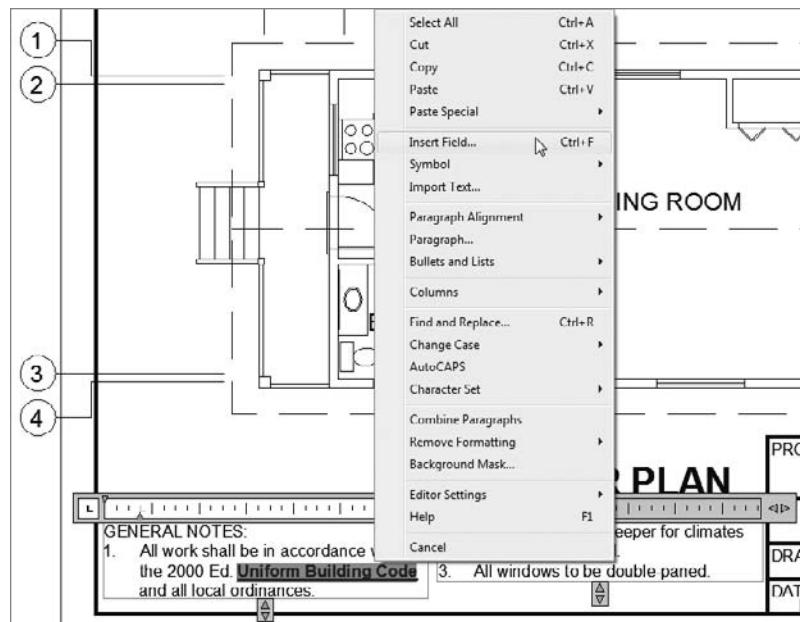

FIGURE 8.63 Inserting a field into an Mtext object
- 3.** Right-click and choose Insert Field from the context menu (see Figure 8.63), or click the Field button in the Insert panel.